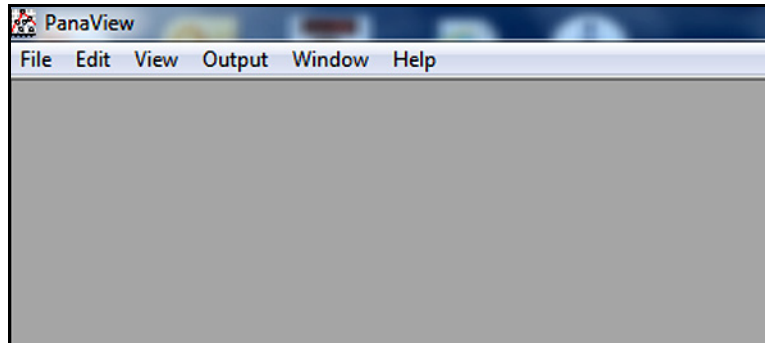

Figure 11: The Basic PanaView Window
2. As shown in *Figure 11* below, the default initial PanaView window contains only the following basic components of the interface (listed from top to bottom):
Note: To make the image in *Figure 11* below more readable on this page, the window was compressed both vertically and horizontally from its actual dimensions.